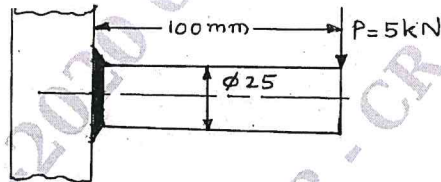

Fig. Q7 (b)
- b. A solid circular shaft 25 mm in diameter is welded to a support by means of a fillet weld as shown in Fig. Q7 (b). Determine the leg dimensions of the weld if the permissible shear stress is 95 N/mm^2 . (10 Marks)